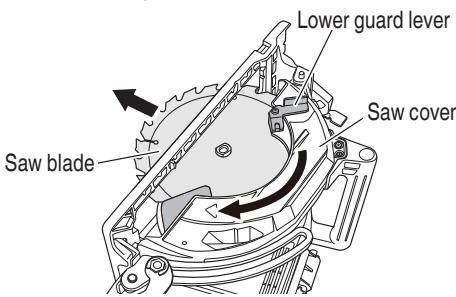

Fig. 16
- Depress the lock lever, lock the spindle, and remove the hexagonal flange bolt and washer (B) with the wrench.
- While holding the lower guard lever to keep the lower guard fully retracted into the saw cover, remove the saw blade (Fig. 16).